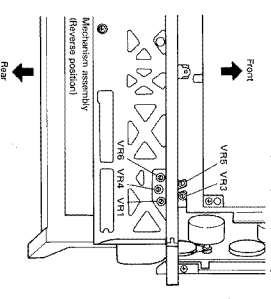
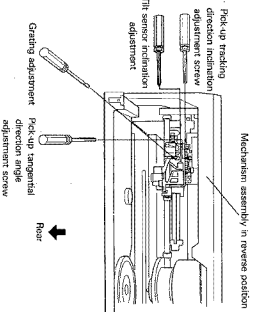

Fig. 5. PVR adjustment screws in the mechanism chassis
Fig. 6. Screwdriver insertion position for pick-up adjustments
- ④ PREB assembly Post adjustment
- By reversing the mechanism assembly position for the PREB assembly adjustments, the PVR adjustment holes in the mechanism chassis become accessible. (Fig. 5)
- ⑤ Proper positioning of the screwdriver when hearing it for adjustments on the pick-up assembly
- For grading, pick-up assembly inclination and tilt inclination adjustments, insert the screwdriver for each separate adjustment in the direction shown in Fig. 6.
- ⑥ Precautions when handling flexible cables
- ⑦ Preventing malfunction of disc and the sensors
- ⑧ When the light irradiates in the LEDB assembly, the disc will not be read and the mechanism assembly will not rotate anti-clockwise
- ⑨ Solder the lead wire to 2nd and 3rd pin of CN18 on the PREB assembly before adjustment. It will be easy for Pick-Up Tracking direction inclination adjustment, Pick-Up height adjustment and Fine tracking adjustment.